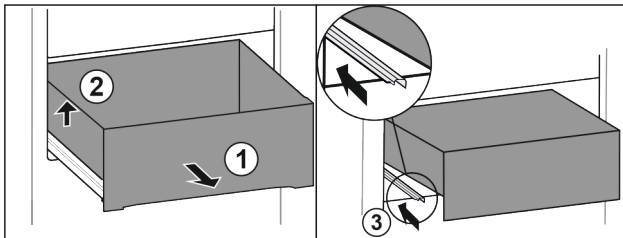

Fig. 13*
- ▶ Pull drawer out completely Fig. 13 (1).*
- ▶ Lift drawer on the left Fig. 13 (2).*
- ▶ Slide in left rail Fig. 13 (3).*